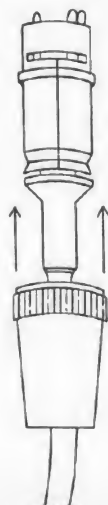

Figure 4
2. Gripping the connector shell firmly in one hand and cable (near connector) in other hand, firmly push cable into shell so that molded plastic insert slips from shell. (See Figure 4)
6. Snap molded insert halves into position. (See Figures 4 and 5)